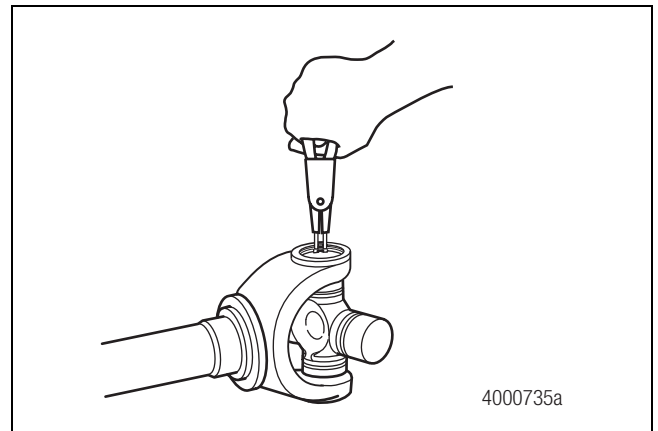

Figure 4.12
1. Use snap ring pliers to remove the snap rings. Figure 4.12.